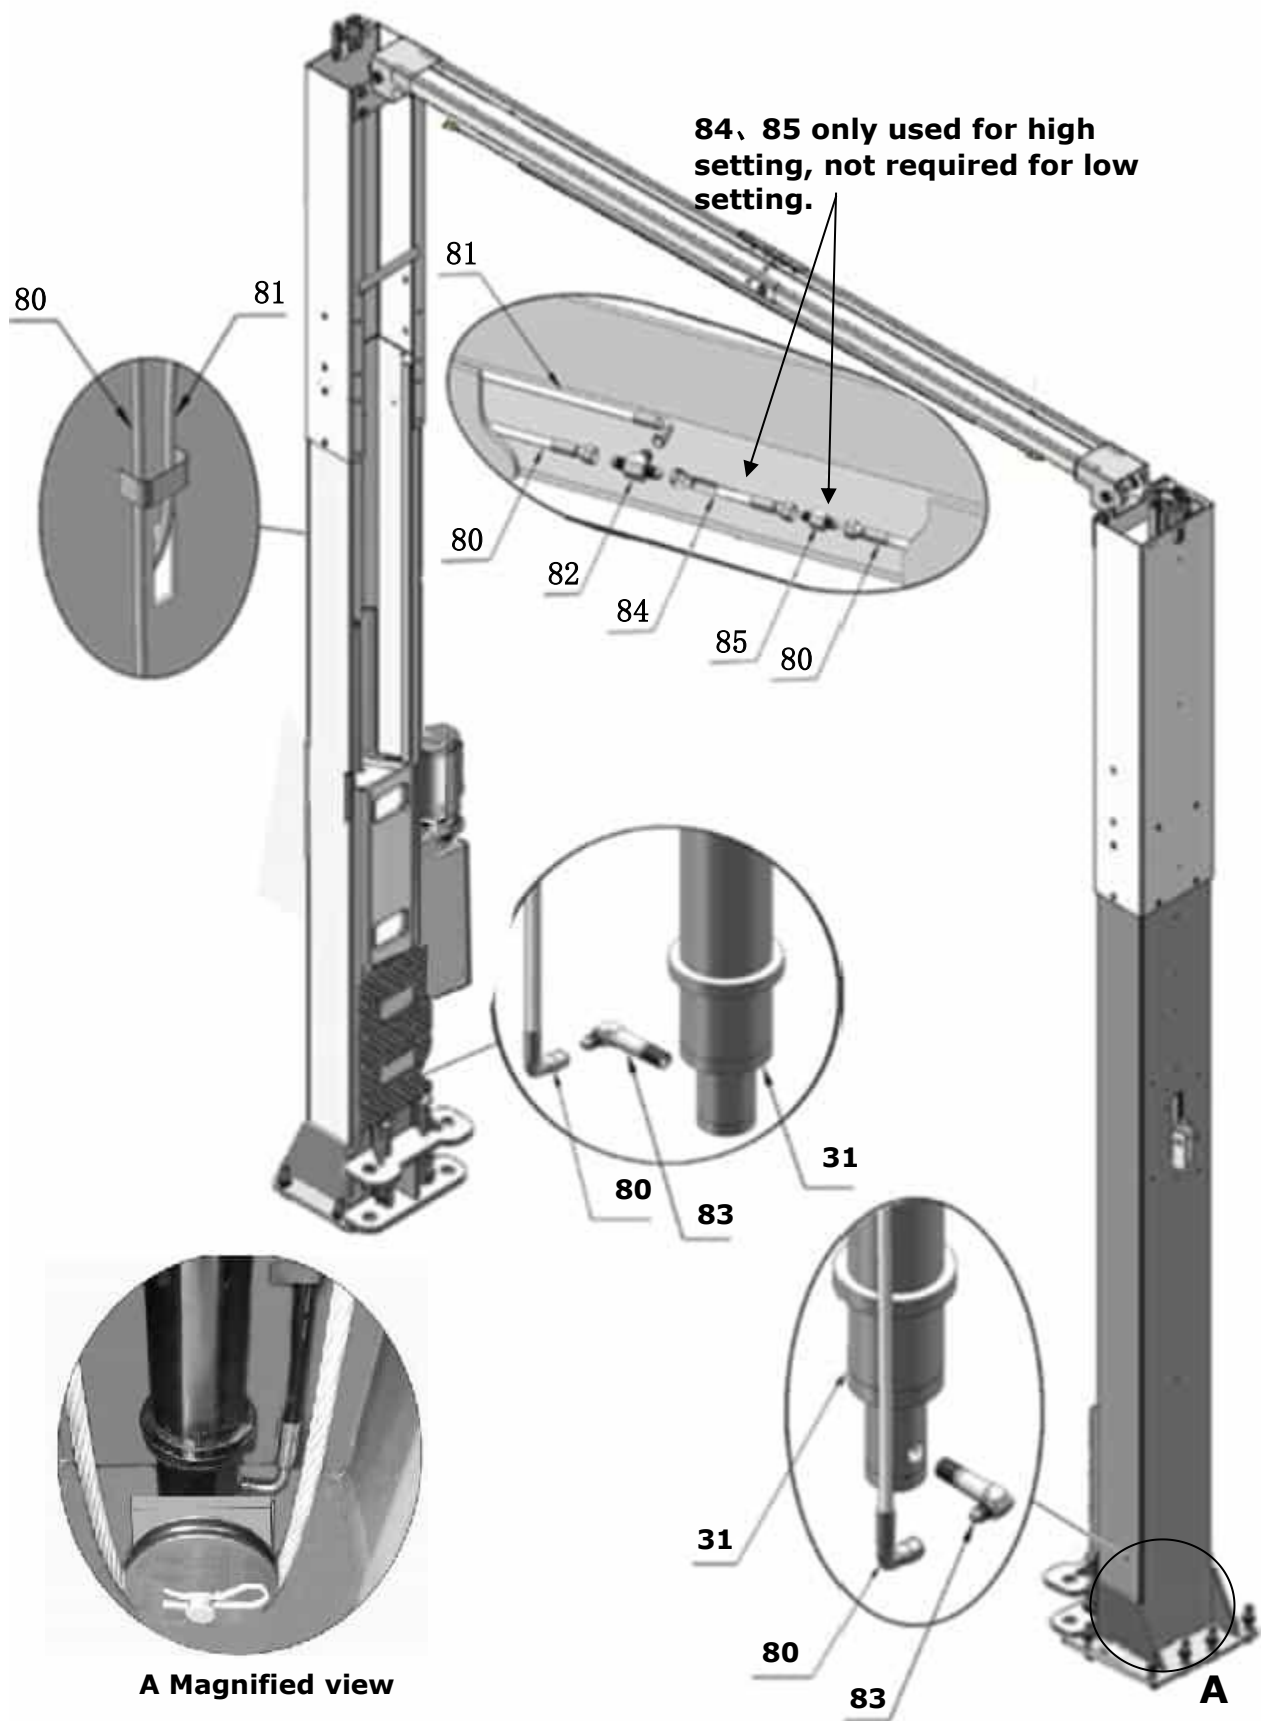

Fig.32
2. OHX-10H oil-line connecting diagram (See Fig. 32).